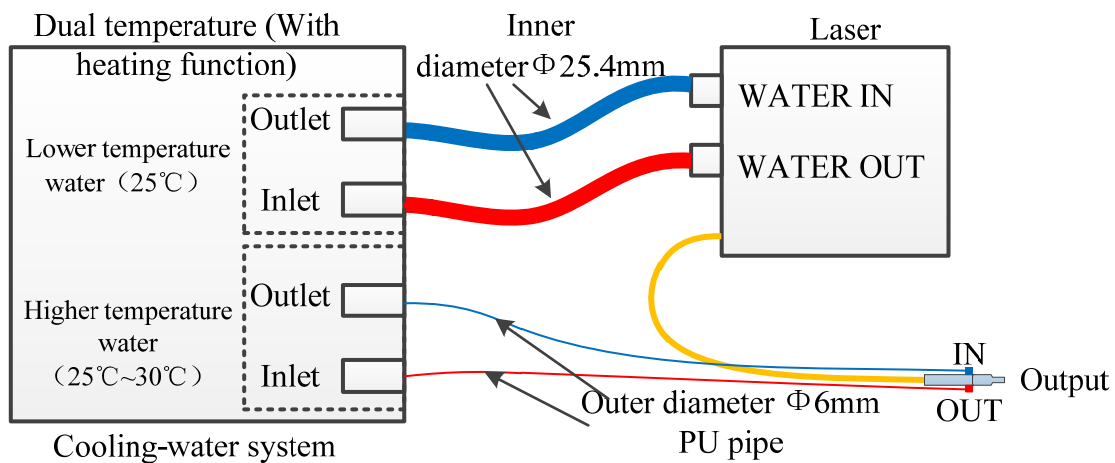

Figure 3.5 Sketch Map for the connection of the cooling system
The method is shown in Figure 3.5: the outlet of the water cooler is connected with the “WATER IN” of the laser, and the inlet of the water cooler is connected with the “WATER OUT” of the laser, and so is the QD.
- (1) Water with poor quality cannot be used, and the water temperature should not make QBH/ QD dewy.
- (2) Just as the figure 3.5, the QBH/QD must be connected in the water way first, and then the processing head. Do not reverse or divide water in order to avoid cooling capacity lacked.
Figure 3.5 the connection of water way between QBH/QD and processing head